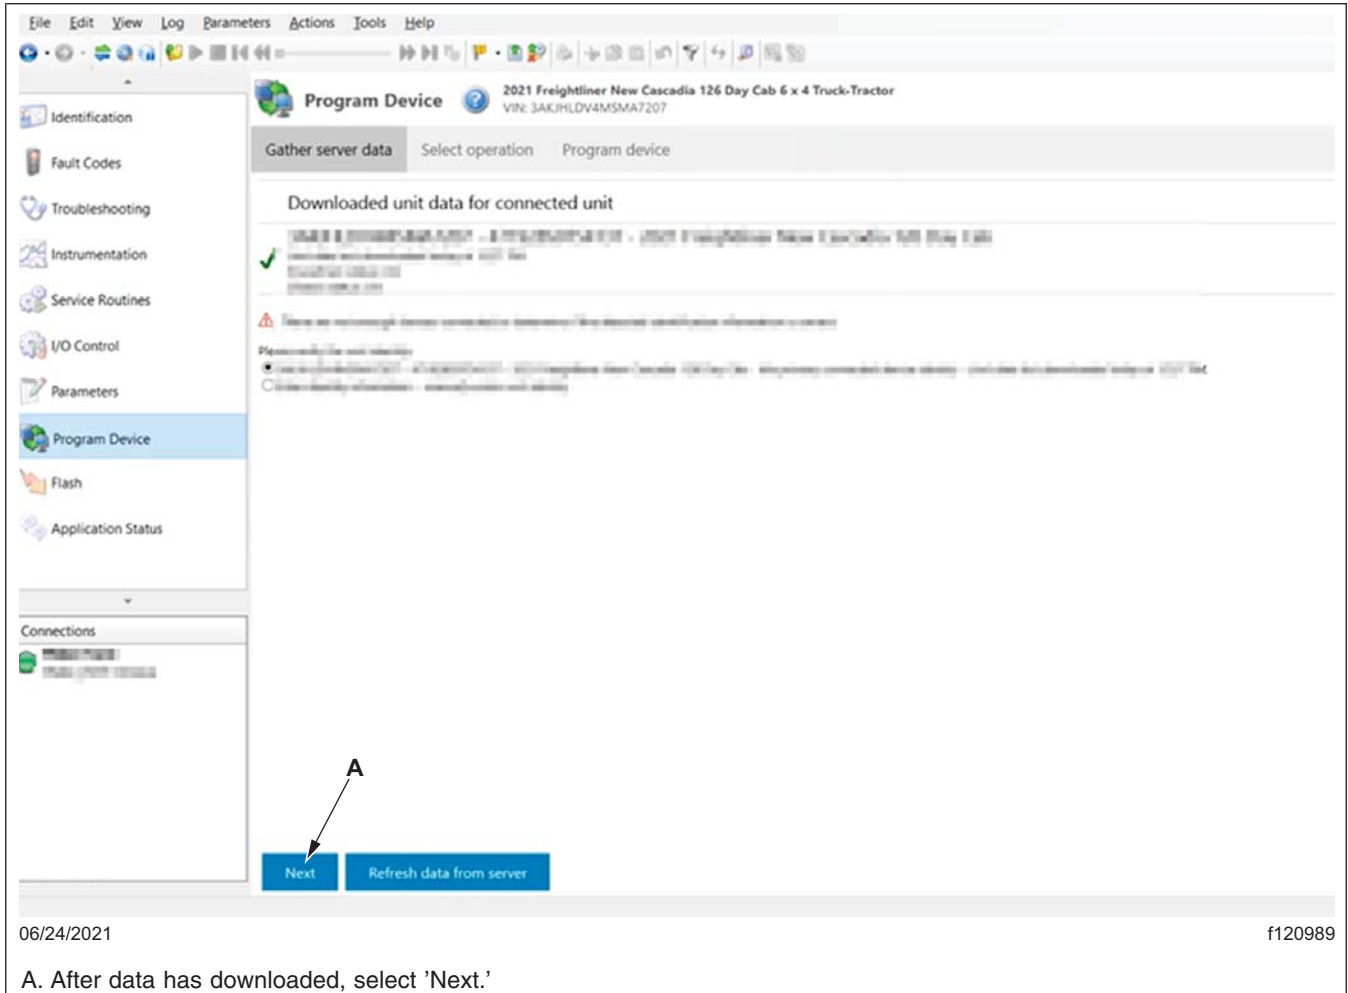

Fig. 9, Selecting Next
5. When the data has finished downloading, select 'Next' as show in **Fig. 9**.